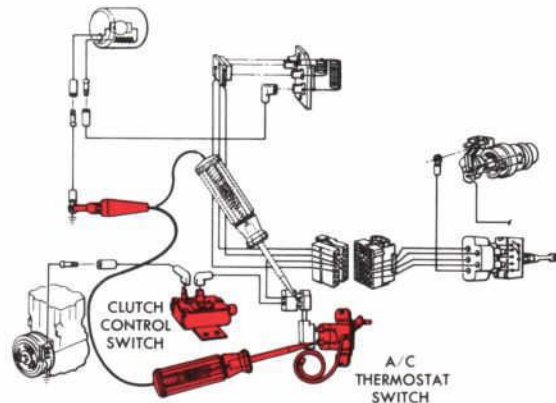

Figure 21—Testing Thermostatic Switch to Clutch Control
3. If the light still doesn't burn, move the test probe to the connection between the thermostatic switch and the clutch switch (Fig. 21). A glowing light here tells you the lead between the switches is open or damaged. Repair or replace. If the light still doesn't glow, test for power to the thermostatic switch.